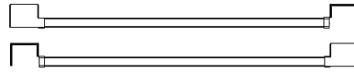

Fig. 17
12. a. Choose which Toe Kick to place below the unit based on which side the door hinge is on (Fig. 17). You do not need the other Toe Kick.